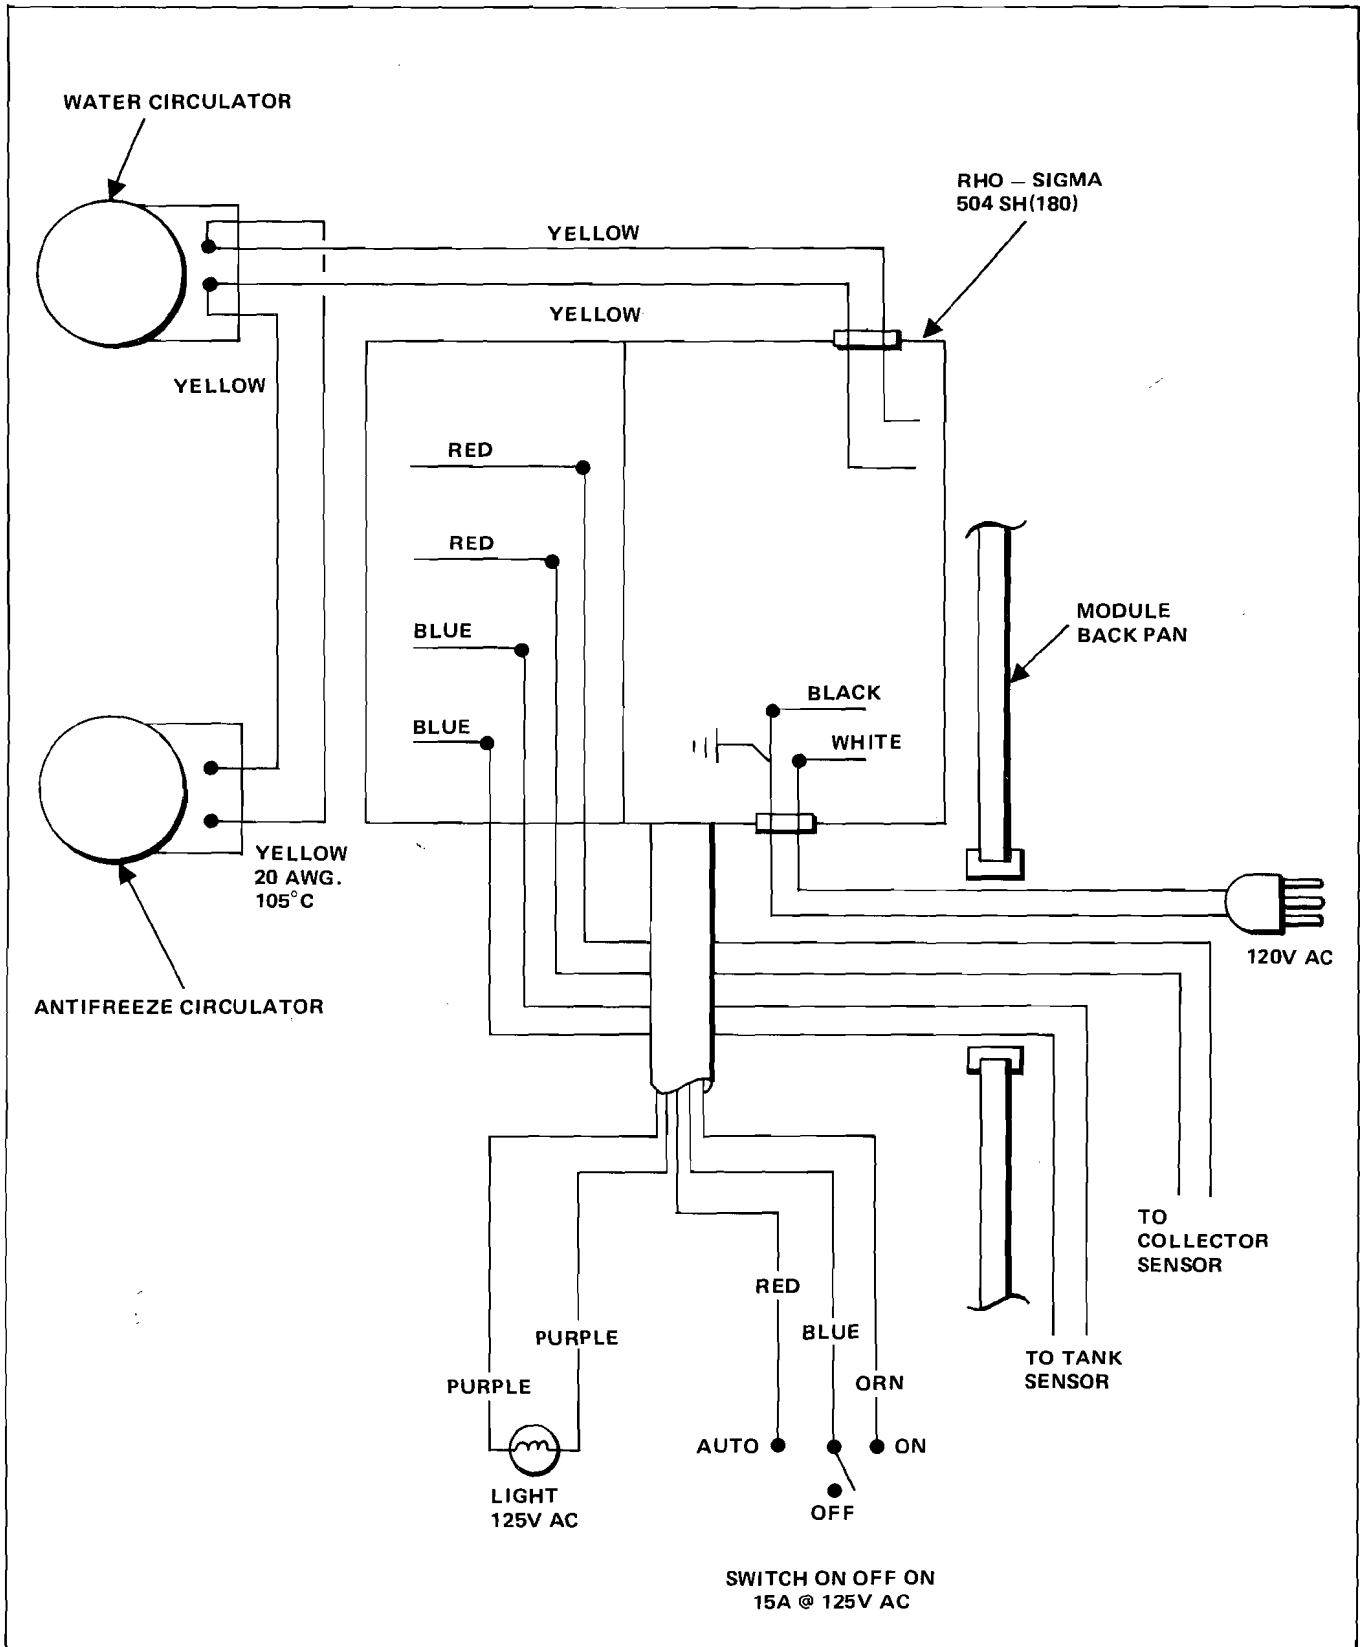

FIGURE 7 - MODEL CF100 MODULE WIRING DIAGRAM
- (1) Study wiring diagram (figure 7). If hook-up is not clear, consult your dealer and/or your electrician.
- (2) Plan your wire and cable runs to be as short as possible.
- (3) Do not work on any circuit until you have disconnected the circuit by tripping the circuit breaker or removing the fuse.
- (4) Provide a properly grounded and protected 115V AC, 60Hz power input to the controller via cord attached or permanent wiring.
- (5) Do not stand on a damp floor when working on any electrical circuit; stand on a wooden platform or wear rubber overshoes.
- (5) Attach blue wires to the sensor on the storage tank (figure 7) with 18-gauge wire. Cap off with wire nuts.
- (6) At service box, connect service line to service.